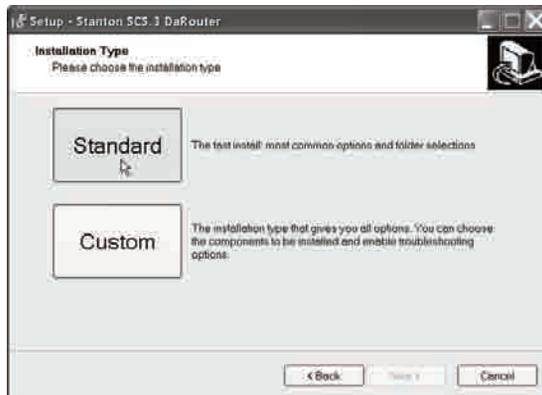

Figure 4.4
- Choose the *Installation Type* (Figure 4.4)